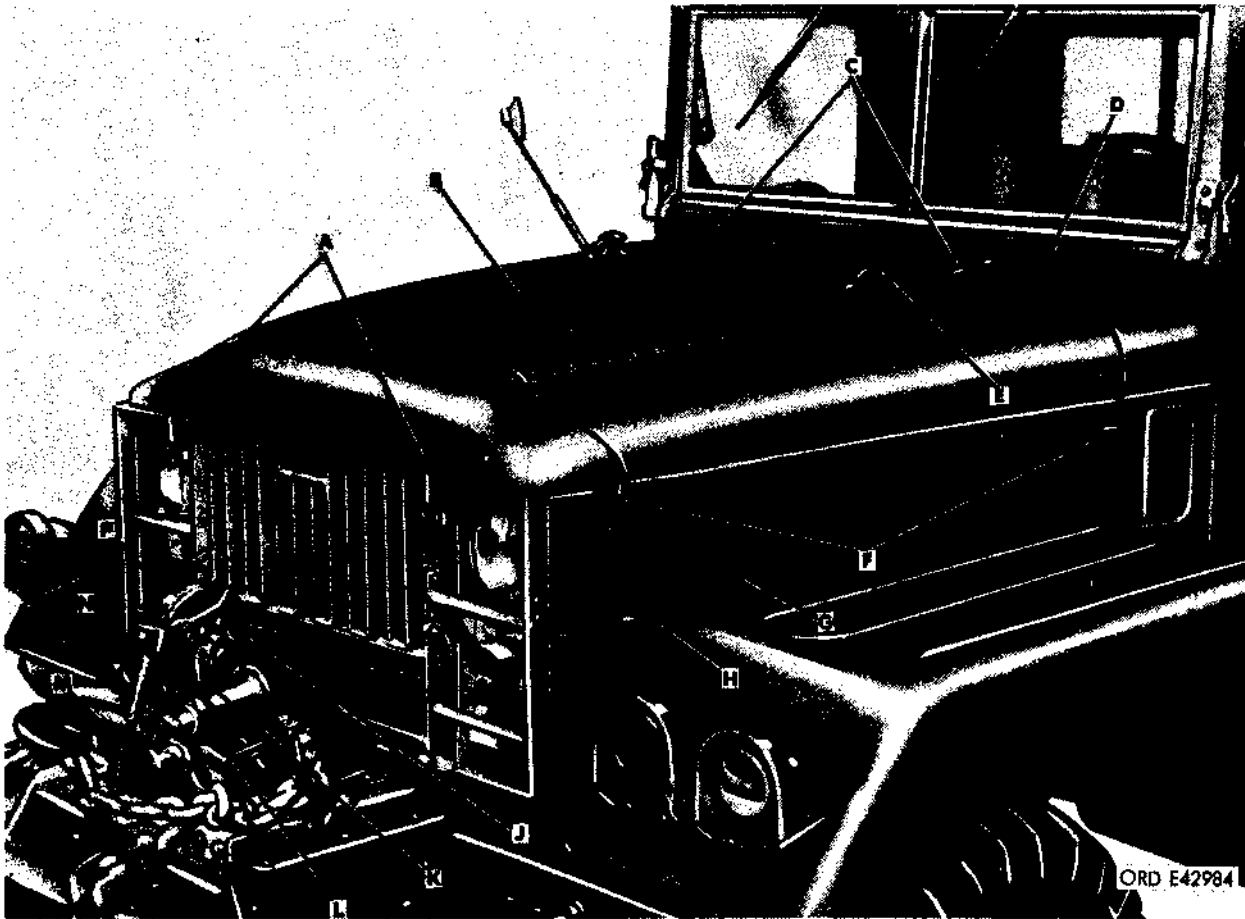

Figure 54.1. View of left front section of truck.
(b) Open engine compartment (figure 54.1). Pull upward and outward on hood holddown catches (A) to release front end of hood panel (B). Raise panel as far as it will go, and engage left windshield holddown catch (E) with eye of top panel hook (D) to lock panel in raised position. Release latches (F) at front and back of left and right hood side panels (G), and slide side panels forward to disengage hinges (H) and remove.